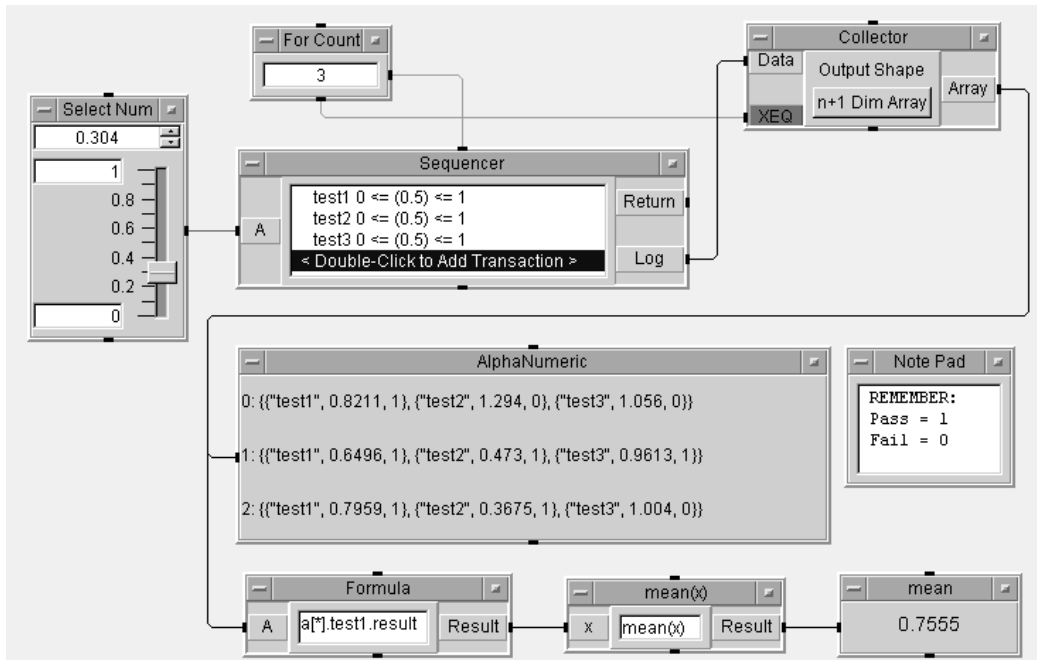

Figure 16.3. Layout, Sequencer Data, and Calculation of Mean
21. Connect a new AlphaNumeric display to `mean(x)`; change its title bar to **mean**; connect its input (x) pin to the Formula output (Result) pin; see Figure 16.3.